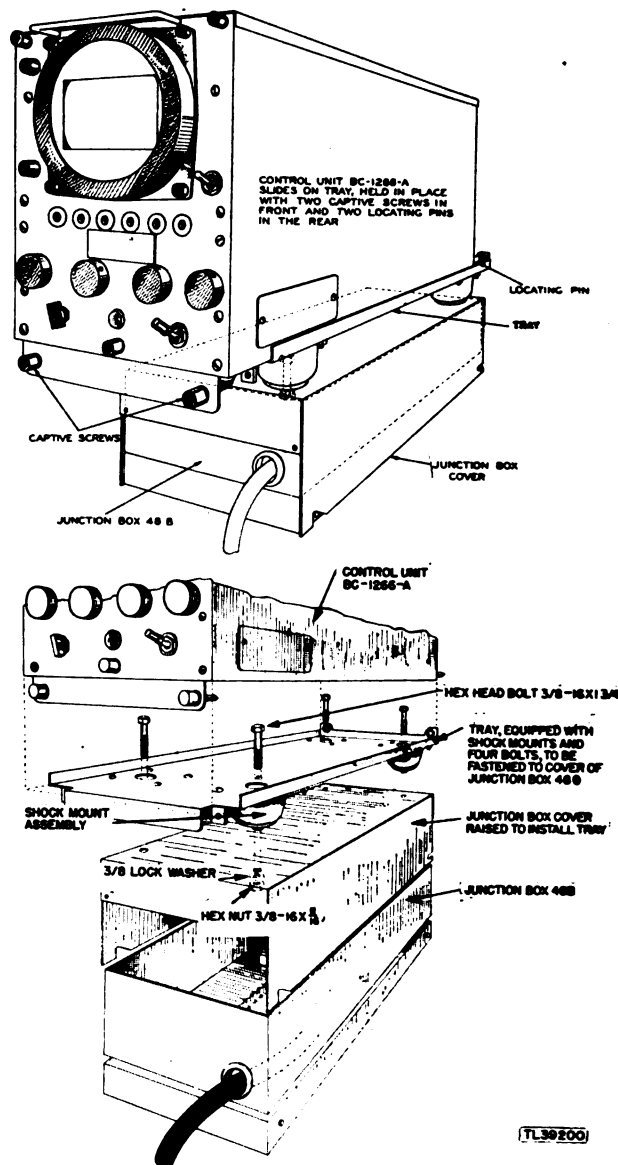

Figure 45. Control Unit BC-1266-A, installation details.
b. Secure the shock mount to the cover of junction box 48-B as shown in figure 45.
j. Lift the control unit and place it in position to slide on the shock mount on top of the cover of junction box 48-B (fig. 45). Slide the control unit into position on the shock mount and secure it by means of the two captive thumbscrews at the lower edge of the front panel.